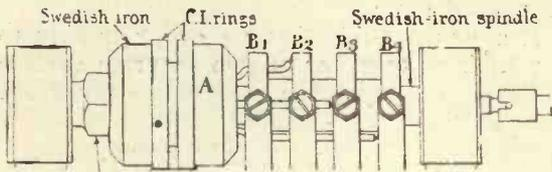
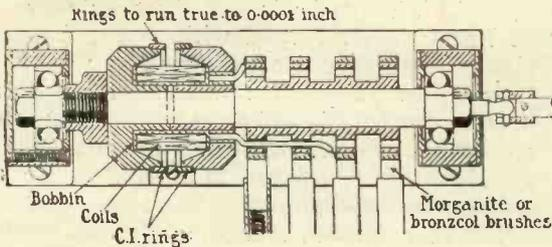
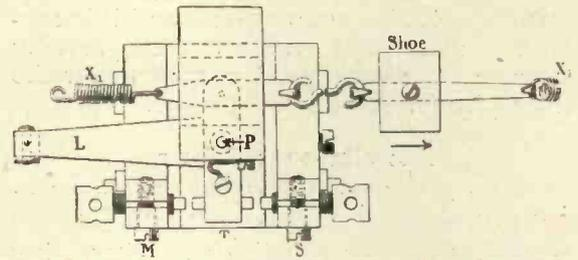

Fig. 1.
Fig. 2.
Fig. 3.
**T**HE essential principle involved in this instrument is the increased sliding friction between an iron drum and a small iron shoe riding upon the surface of the drum when a magnetic force is set up between the two. The instrument consists essentially of an iron drum, as shown in Fig. 1, in which a suitable slot is arranged for housing one or more coils of wire, the ends of the coils being connected to slip-rings for the purpose of completing the circuit whilst the drum is in rotation. The shoe is machined so as to fit the surface of the drum very accurately, and is held in position by means of two opposed springs. If a signal-current passes through the coils the shoe sticks to the drum, and a considerable tangential force is necessary to cause the shoe to slide on the surface of the drum. The magnitude of the expected tangential pull has been calculated on the usual formula for the magnetic attraction and with ordinary assumptions as to coefficient of friction, but experiments have shown that the pull obtained is in some cases 50 times as great as the expected pull, so that a considerable magnification or amplification is obtained. The action of the device appears to depend upon some form of cohesive effect produced by the close contact under the magnetic force. It will be obvious
A reference to Fig. 1 will show the general features of the device. A is the iron drum mounted upon the spindle in ball bearings, B1, B2, B3 and B4 are the slip-rings with contact brushes. It will be noticed that two cast-iron rings are fitted on to the Swedish iron drum, and it is upon these rings that the shoe actually rides; the reason for this is to facilitate replacement of the rings after wear. The drum is driven at a slow speed by means of a 15/1 worm-reducing gear, the worm being driven by a variable speed electric motor of about  $\frac{1}{10}$  h.p. running at a maximum speed of 3,000 r.p.m. The shoe is cut from a ring of Swedish iron, and side play is prevented by a projection which fits into the annular slot in the drum between the cast-iron rings. The coils are arranged co-axially with the drum, and are seen in Fig. 2, which represents the plan of this part of the instrument. Fig. 3 shows a plan of the shoe and the springs. X2 is a weak spring and serves, as seen in Fig. 4, to keep the shoe in contact with the drum. X1 is a stronger spring, and it is against the force of this spring that the tangential pull of the shoe operates when a current is passing in the coils. It will be
seen from Fig. 3 that when the shoe is given an impulse in the direction of the arrow, the system of levers will be rotated about the point P and the arm L will move transversely. In the complete instrument, the end of this arm L operates a siphon-recorder, and the markings are recorded upon a paper tape in the usual way. Owing to the large force and the relatively small inertia of the moving parts, the appearance of the tape, especially at speeds above 100 w.p.m., is claimed to be very much superior to that obtained with the usual pattern of siphon-recorder.